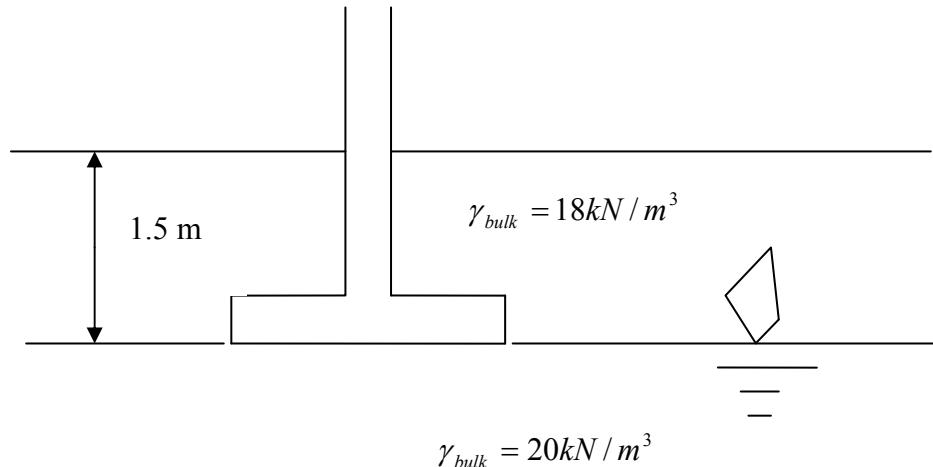
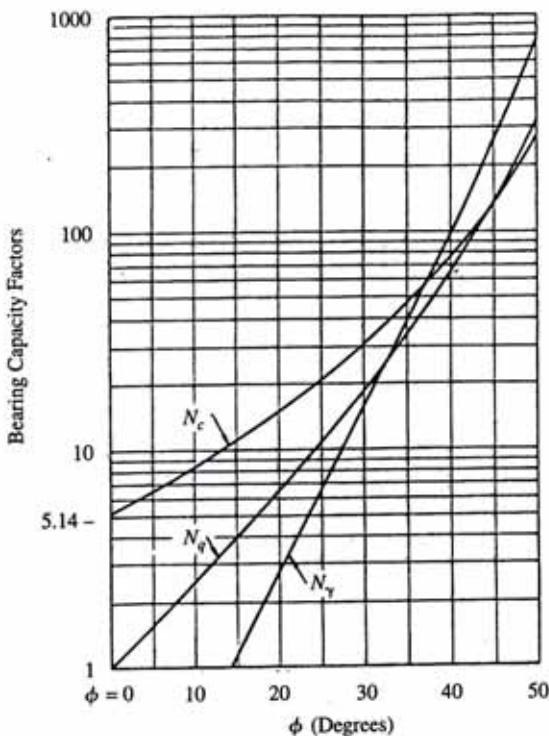

Figure 4 – Pad foundation in clayey/sandy ground
Figure 5 – Chart associated with Question 5.
5. The column load on a footing has been calculated as 1.0 MN. You need to design a square pad footing to cater 3 times of the given column load, i.e., FOS = 3.0. You have decided to place the footing at 1.5 m below ground, exactly at where the water table is. The material above footing level has a bulk unit weight of 18 kN/m³ and below footing level 20 kN/m³. A schematic diagram of the case is given in Figure 4. Terzaghi's equation for ultimate bearing capacity, q_{ult} , for square foundation is given by: $q_{ult} = 1.3 cN_c + 0.4B\gamma N_\gamma + qN_q$. An associated chart is given in Figure 5